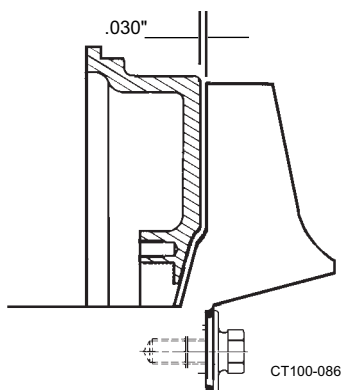

Figure 53 - Clearance Between Impeller and Backplate
2. Check the impeller/backplate clearance with the backplate held firmly in position against the motor adapter. Check the space between the back of the impeller and the backplate with a feeler gauge (0.030" nominal) while holding the backplate tight against the bearing housing flange. Any axial movement of the shaft should not be added to the 0.030" nominal clearance (Figure 53). If needed, change this clearance by adding or removing shims. Shims (Figure 52, item A) are added on the drive shaft behind the impeller shaft (Figure 52, item G).